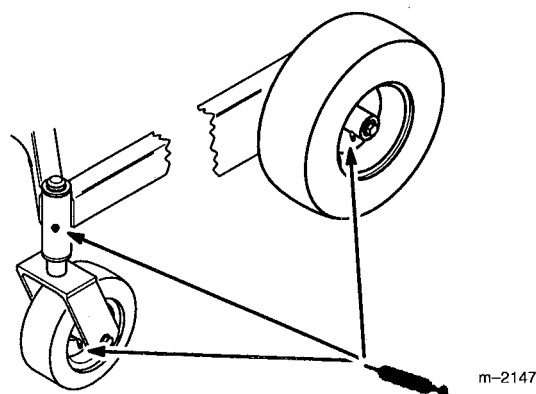

Figure 29
1. Lubricate the wheel bearings and front spindles until grease begins to ooze out of the bearings (Fig. 29).